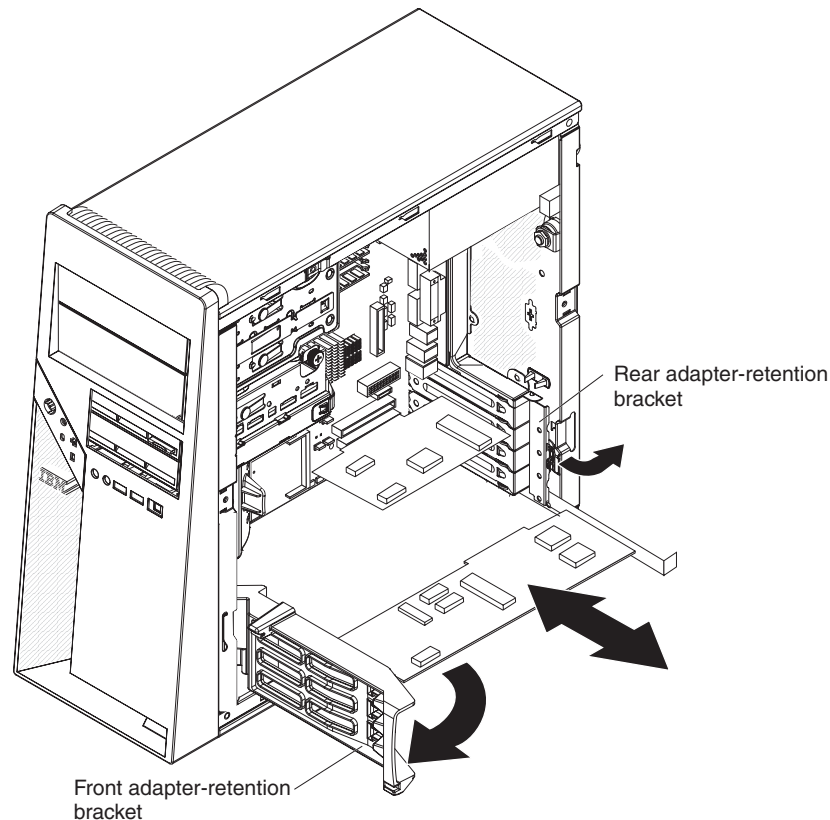

Figure 20. Removing an adapter
7. For full-length adapters, rotate the front adapter-retention bracket to the fully open (unlocked) position (see Figure 20).